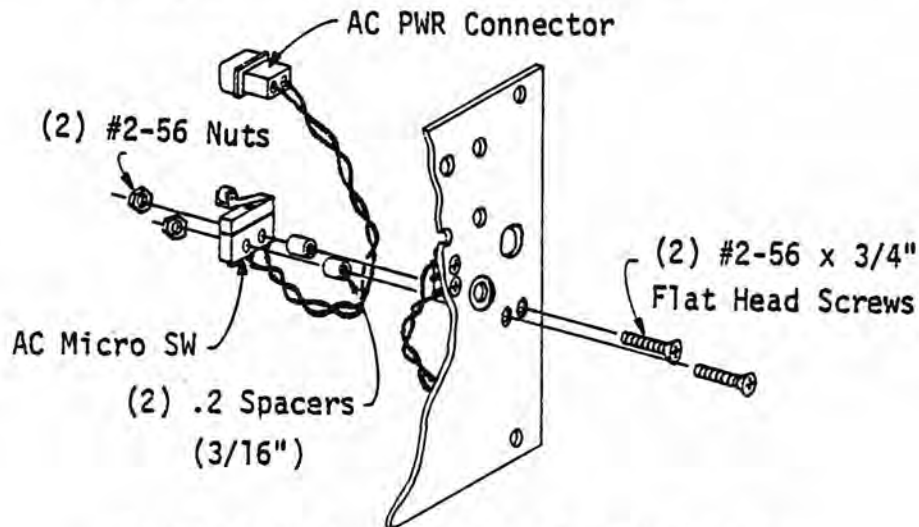

Figure 5-70 Micro Switch A Installation
- a. Using the two small 2-5 x 3/4 CS screws and #2 nuts attach micro switch A to the subpanel as illustrated in Figure 5-70. (Micro switch A is inserted below the largest hole on the subpanel.) It is easiest to tighten the screw, if a nut driver is used to hold the nut.